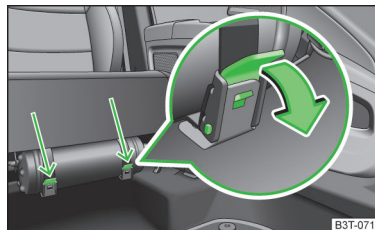

Fig. 175
- Loosen the two straps by pulling the buckles in the direction of the arrow » Fig. 175.